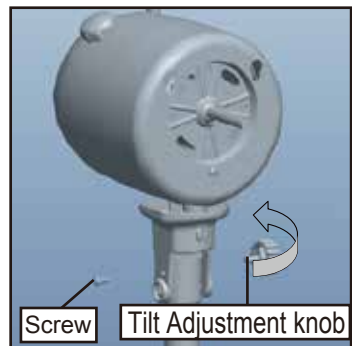

Figure 8.
3. After securing the motor, screw in the **Tilt Adjustment Knob** and **Screw** firmly. *Figure 8.*